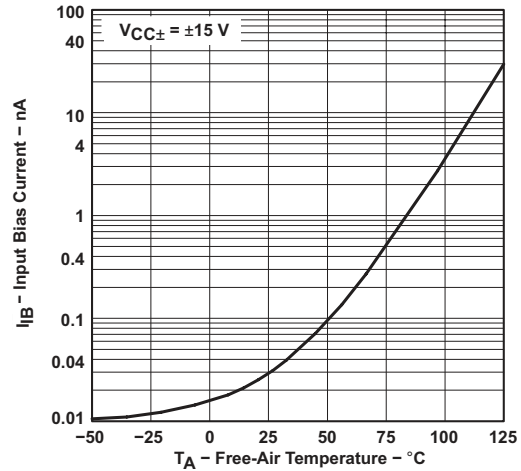

Figure 12. Input Bias Current vs Free-Air Temperature
- Input bias currents of an FET-input operational amplifier are normal junction reverse currents, which are temperature sensitive, as shown in Figure 12. Pulse techniques are used to maintain the junction temperature as close to the ambient temperature as possible.
Input bias current versus Free-air temperature	Figure 12